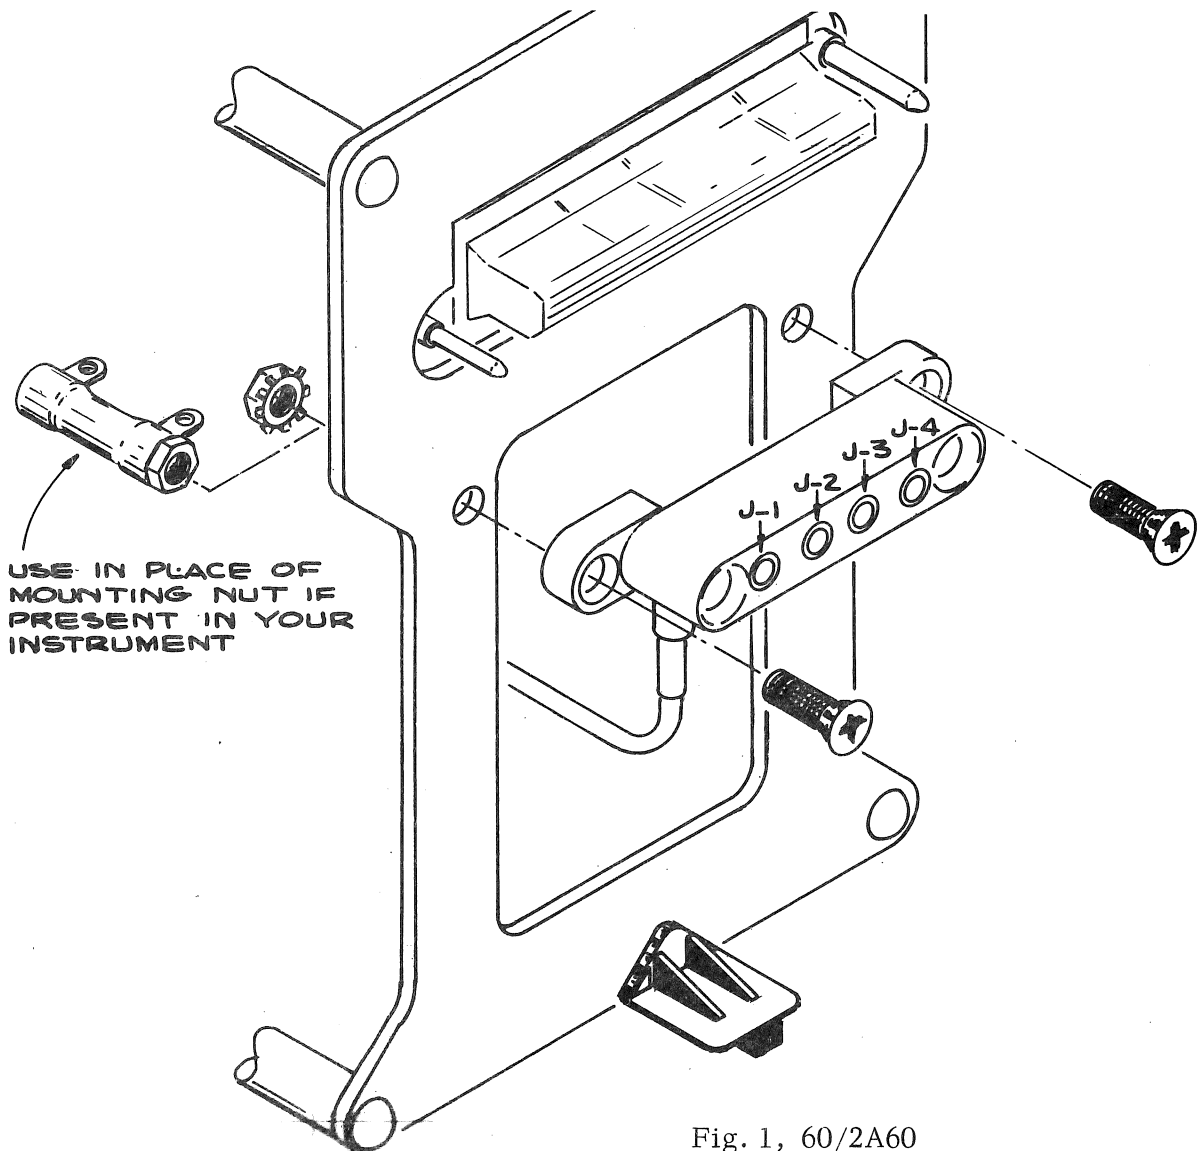

Fig. 1, 60/2A60
- ( ) 1. Mount the coax connector holder (from kit) on the rear plate of the plug-in, using the 6-32 flathead screws and Keps nuts from the kit (see Fig. 1).
- ( ) 2. Install the coax-connector assembly (from kit) in position J-1 on the holder, as shown in Fig. 1.